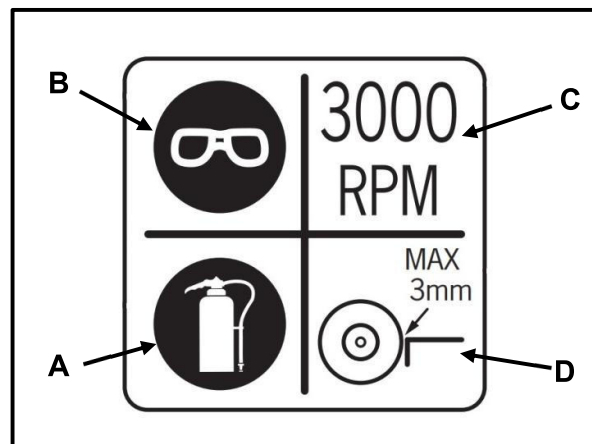

FIGURE 2.2
2.2 FIGURE 2.2 below shows a safety sign at a bench grinder. Explain what is meant by the signs labelled **A–D**.